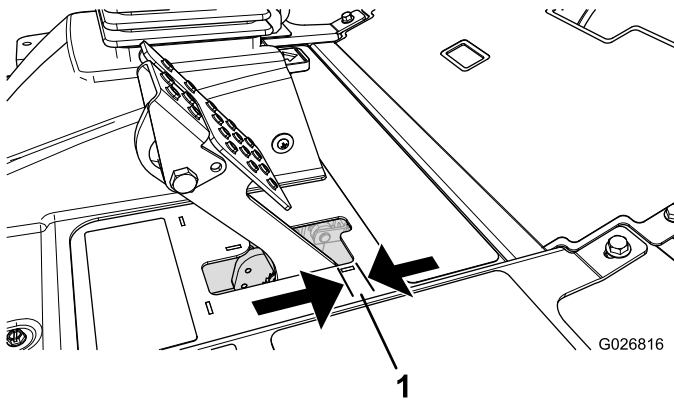

Figure 143
4. Lightly press the brake pedal; and measure the distance the pedal moves without resistance (Figure 143).
**Note:** Adjust the brakes if there is more than 2.5 cm (1 inch) of free travel (Figure 143) of the brake pedal, or if more parking-brake force is required.
6. Tighten the rear nuts to move the cable backward, until brake pedal has 6 to 13 mm (1/4 to 1/2 inch) of free travel (Figure 143), before the parking brake engages the wheels.